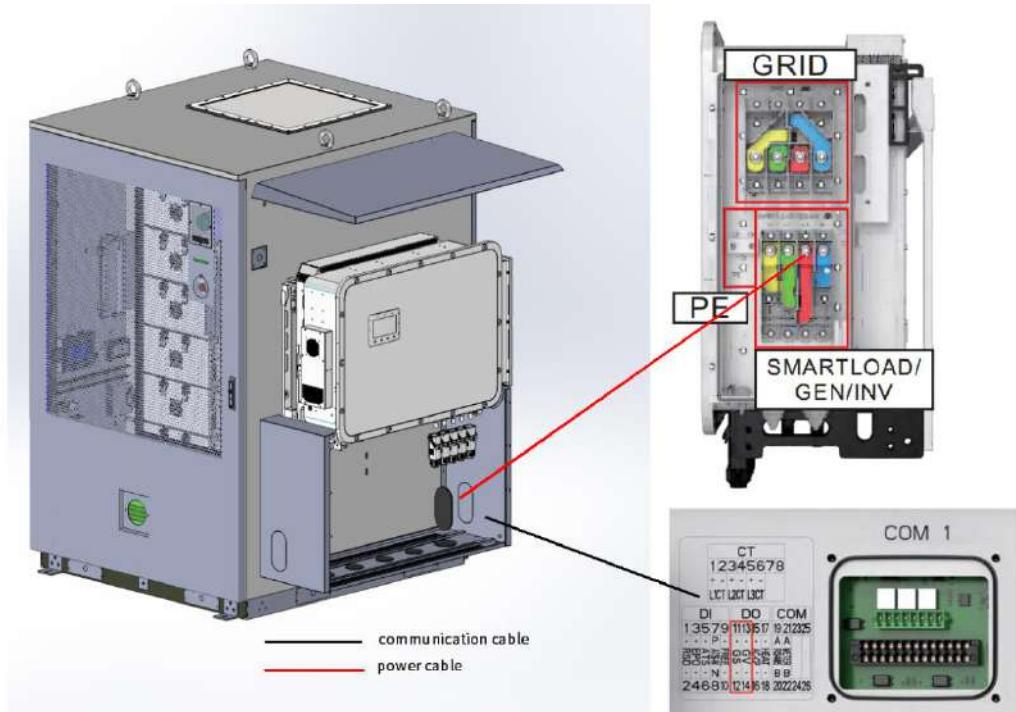

Figure 5-20 Generator Connection Position
- The diesel generator is connected to the EverCore hybrid inverter. Please refer to Figure 5-20 for the connection procedure.